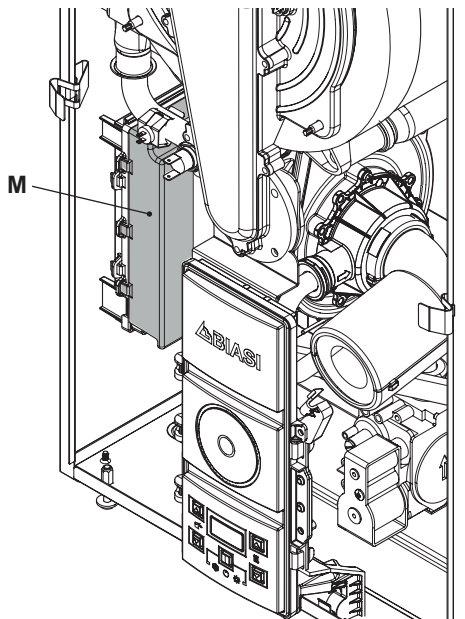

Fig. 6.15
- Identify the terminal block cover lid "M" (Fig. 6.15) and open it.